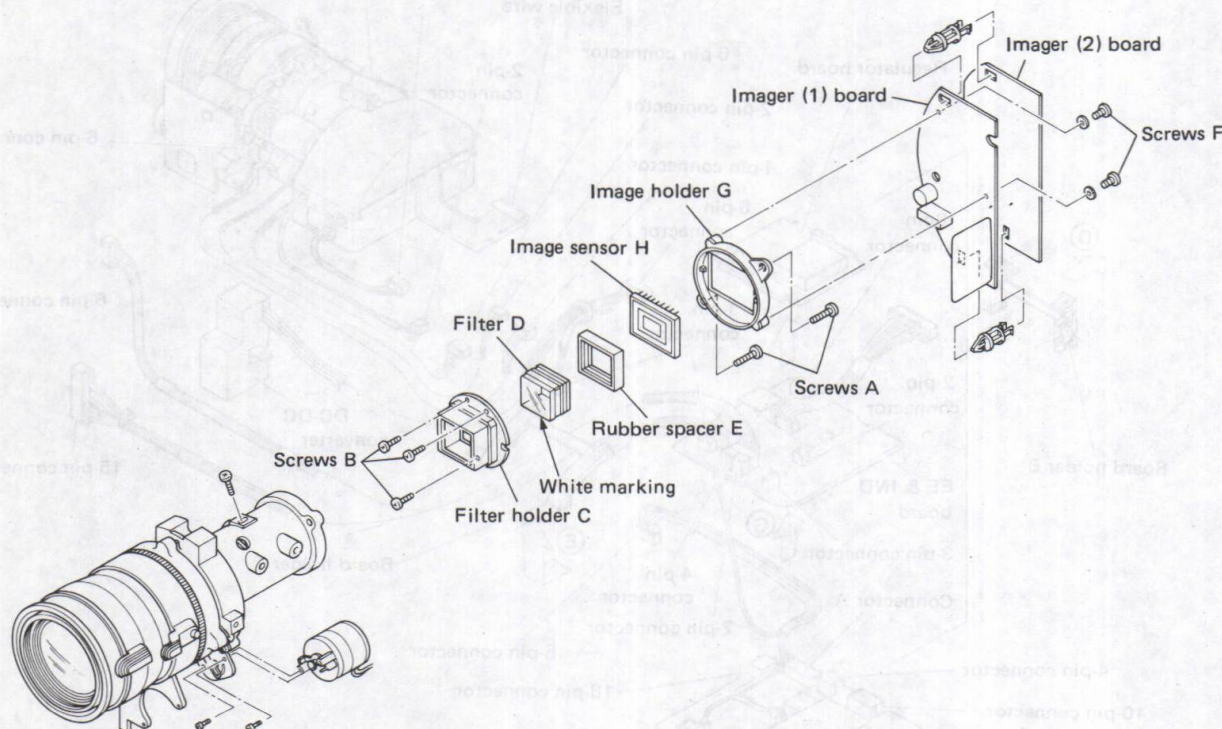

Fig. 1-3-1
1. Refer to Fig. 1-3-1 and take out two screws A. Separate the optical block and the Imager board.